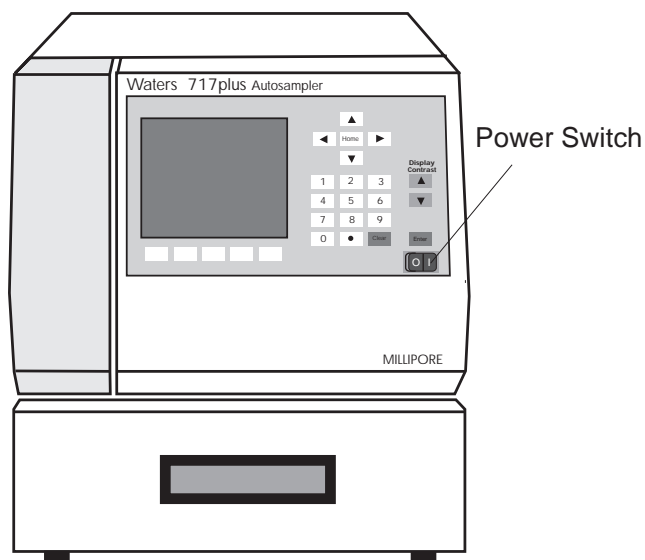

Figure 3-1 Power Switch Location
1. Press the 1/0 (on/off) switch (Figure 3-1) on the front panel.